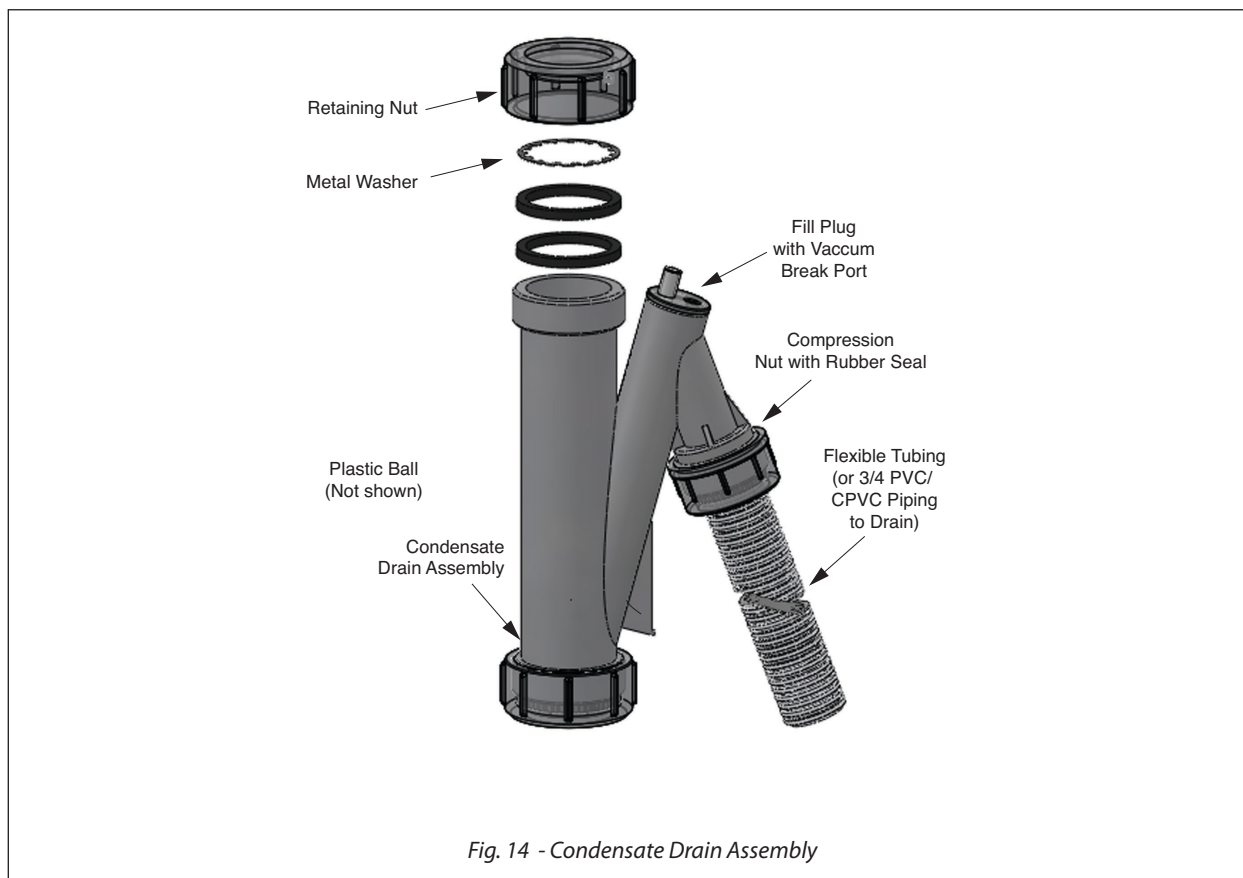

Fig. 14 - Condensate Drain Assembly
1. Locate the condensate drain assembly and ensure the metal washer is installed as shown in *Fig. 14 on page 26*.